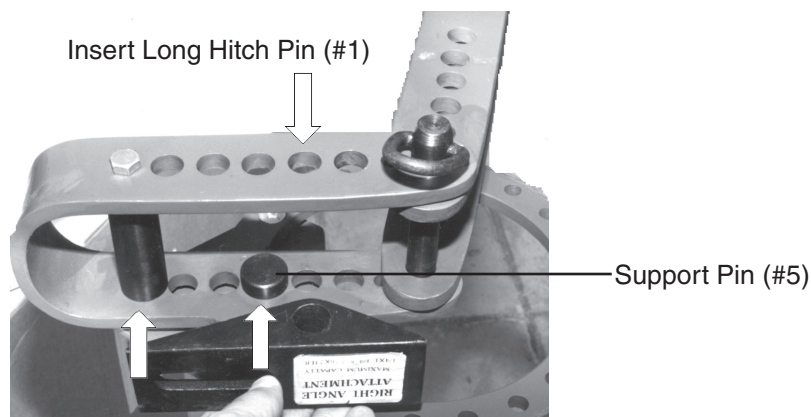

Figure 6-Right Angle Bending Attachment
- Step 1) Install the Support Pin (#5) under the Right Angle attachment. This will raise it up so that it sits above the Ring Assembly/Die Receiver-see Figure 6.
- Step 2) Set the Support Pin into the 3rd hole on the Ring Assembly/Die Receiver (#10). Line up the hole in the top of the Right Angle Bending Attachment (#7) with hole #2 in the Ring Assembly Die Receiver (#10)-see Figure 6. Insert the Long Hitch Pin (#1) through the second hole in the Ring Assembly/Die Receiver (#10) to secure the Right Angle Bending Attachment (#7) in place.